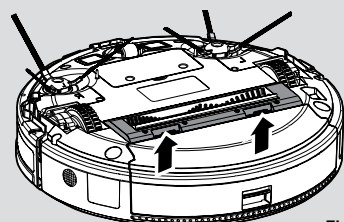

Fig. 22
2. Turn the Robot over. **[Fig. 22]**